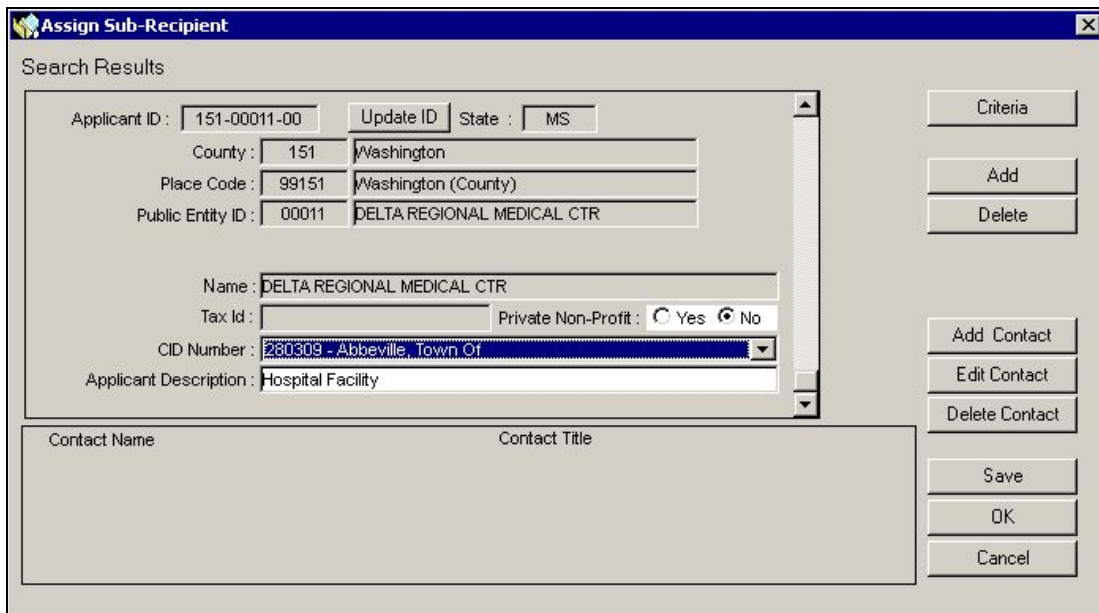

Figure 6-11: Assign New Subrecipient
7. The Assign Subrecipient screen now displays the following read-only information about the selected Subrecipient (Figure 6-11):